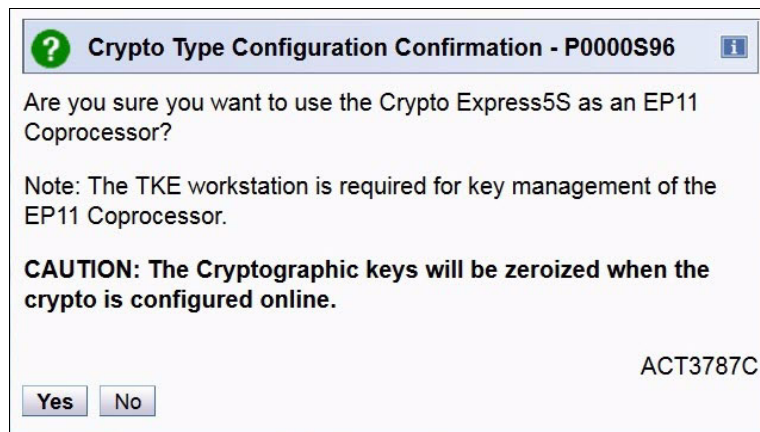

Figure 10-18 Crypto Type Configuration Confirmation for EP11 Coprocessor
5. Confirm your selection by clicking **Yes** (see Figure 10-18).